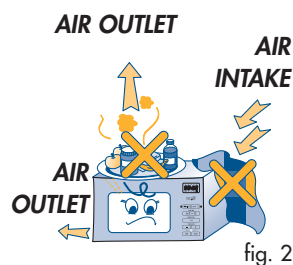

fig. 2
- 6) Do not block the air intake vents. In particular, never place anything on top of the oven and make sure the air and steam outlet vents (on the top, bottom and rear of the appliance) are ALWAYS FREE (fig. 2).
- 7) Place the turntable support (H) in the centre of the circular housing and rest the turntable (G) on top. The turntable support (H) must be inserted into the housing in the centre of the turntable.